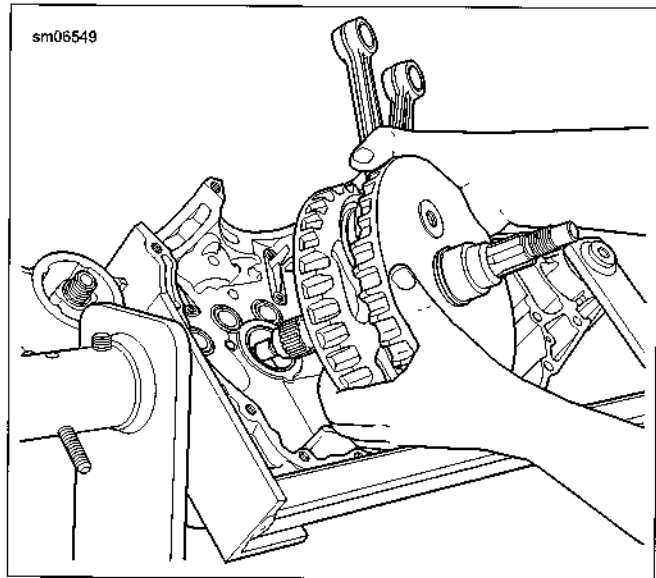

Figure 5-30. Removing Flywheel Assembly From Right Crankcase Half
15. See Figure 5-30. Remove flywheel assembly from right crankcase half.